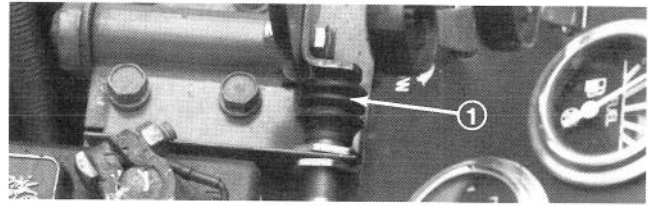

Figure 34
3. Remove boot from button end of PTO switch (Fig. 34). Retain boot for reinstallation. Separate switch wire connectors.